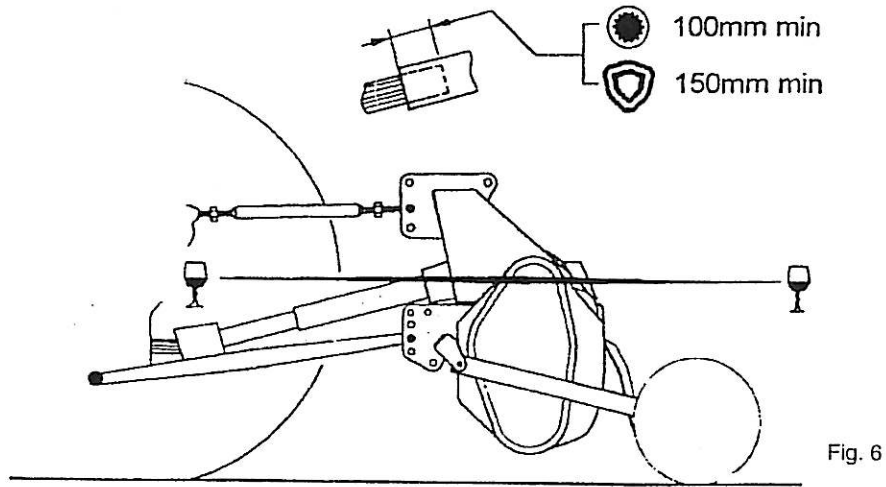

Fig. 6
- Select the linkage points on the Rotavator and adjust the top link such that the Rotavator input shaft is horizontal when in the working range and remains as close to horizontal when raised. See Fig 6.
150 mm for tribolobal or star profile tubes. See Fig 6.